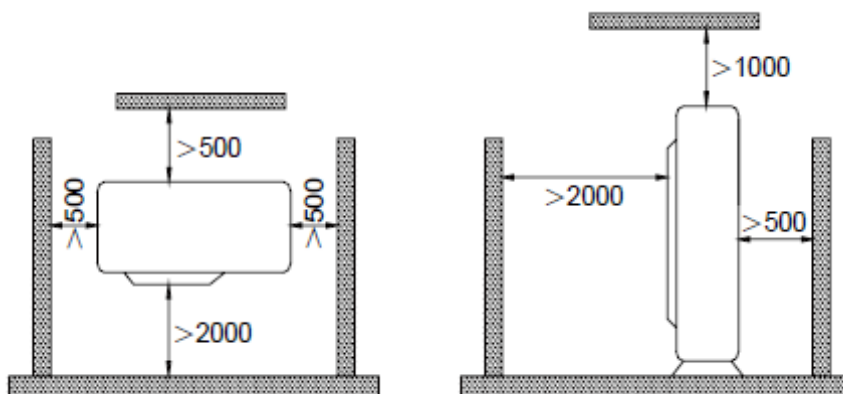

Figure 3: Outdoor Unit Clearances
- When the outdoor unit is surrounded by walls, the installation space of the unit should be allowed as depicted in Figure 3.